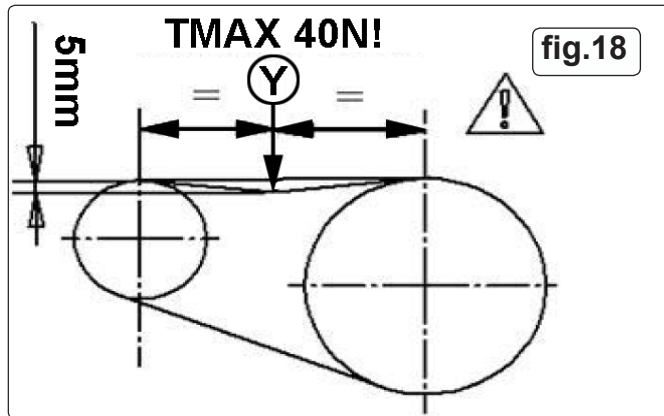

fig.18
- 7.6.3 Using a dynamo meter apply a perpendicular force at point 'Y' of between 25N and 35N (see fig.18).